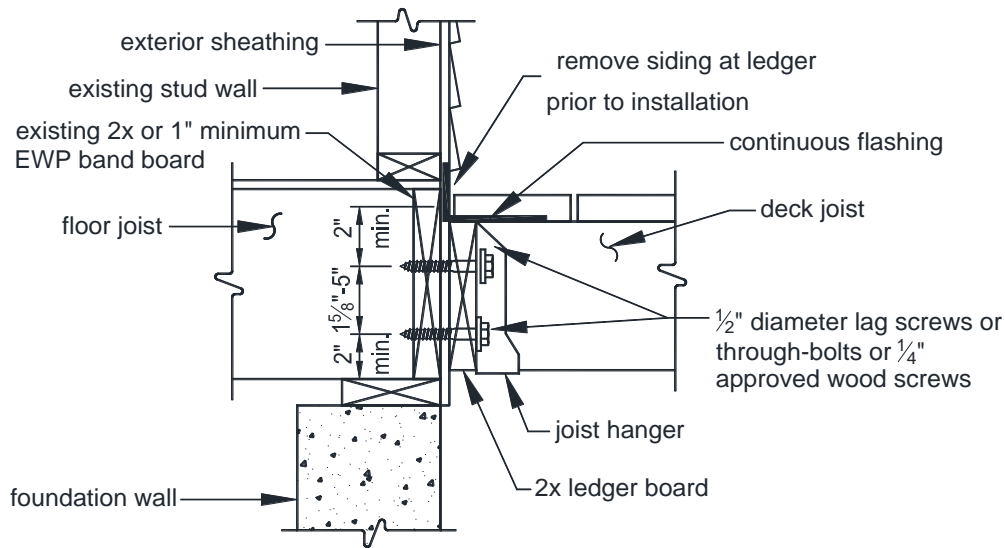

FIGURE 22: LEDGER BOARD-TO-BAND BOARD ATTACHMENT
- The ledger board shall be attached in accordance with one of the conditions shown in FIGURES 22 through 24.
- Continuous flashing, as shown in FIGURE 22, is required at the ledger board when attached to wood-framed construction.